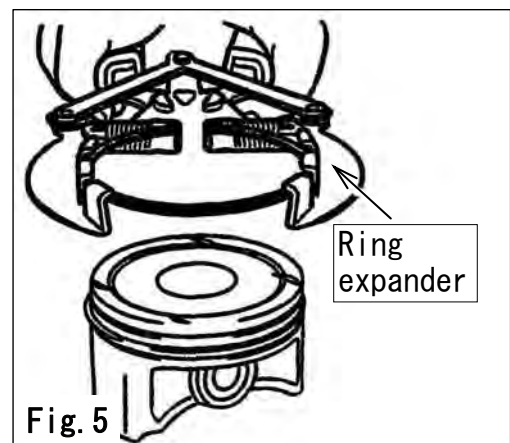

Fig. 5
- 6.1 Install piston rings onto pistons using a piston ring expander. (See the Fig. 5)
Install the rail ring on to the piston oil ring groove that the coil ring was placed using the piston expander as shown in Fig. 5.